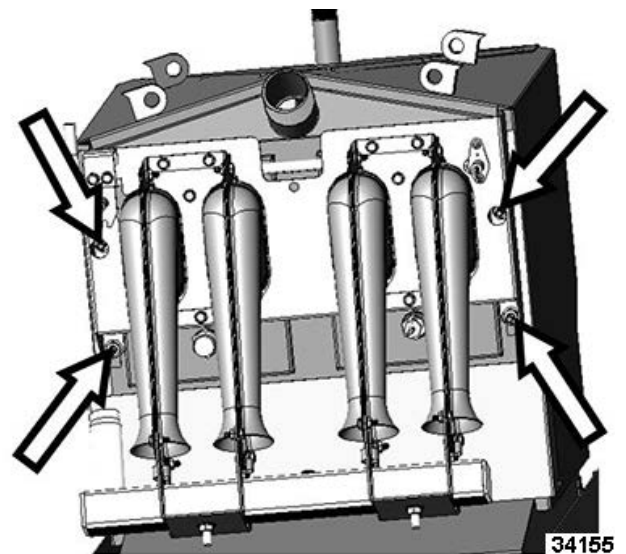

Fig. 55
10. Remove four mounting nuts (Fig. 55) holding burner assembly on tank.